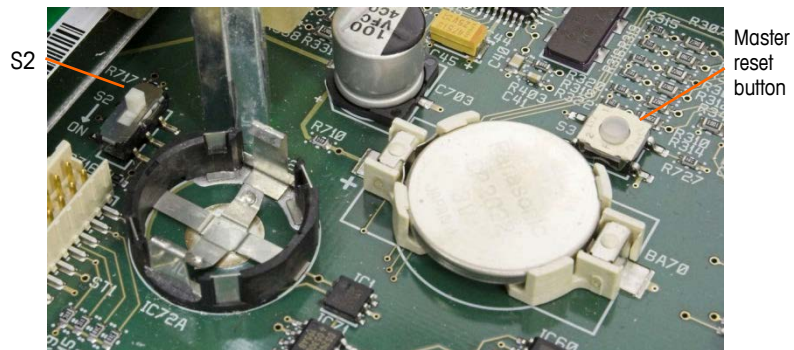

Figure A-36: Main PCB Master Reset Button Location
To erase all programming in the terminal and reset all settings (except metrologically significant scale calibration data) to their factory default values, press the master reset button adjacent to the battery. Figure A-36 indicates the location of this button. This process is described in the **IND780 Technical Manual**, Chapter 4, **Service and Maintenance**.
- To reset scale data as well, S2 (shown in its OFF position in Figure A-36) must be set to ON before the master reset.